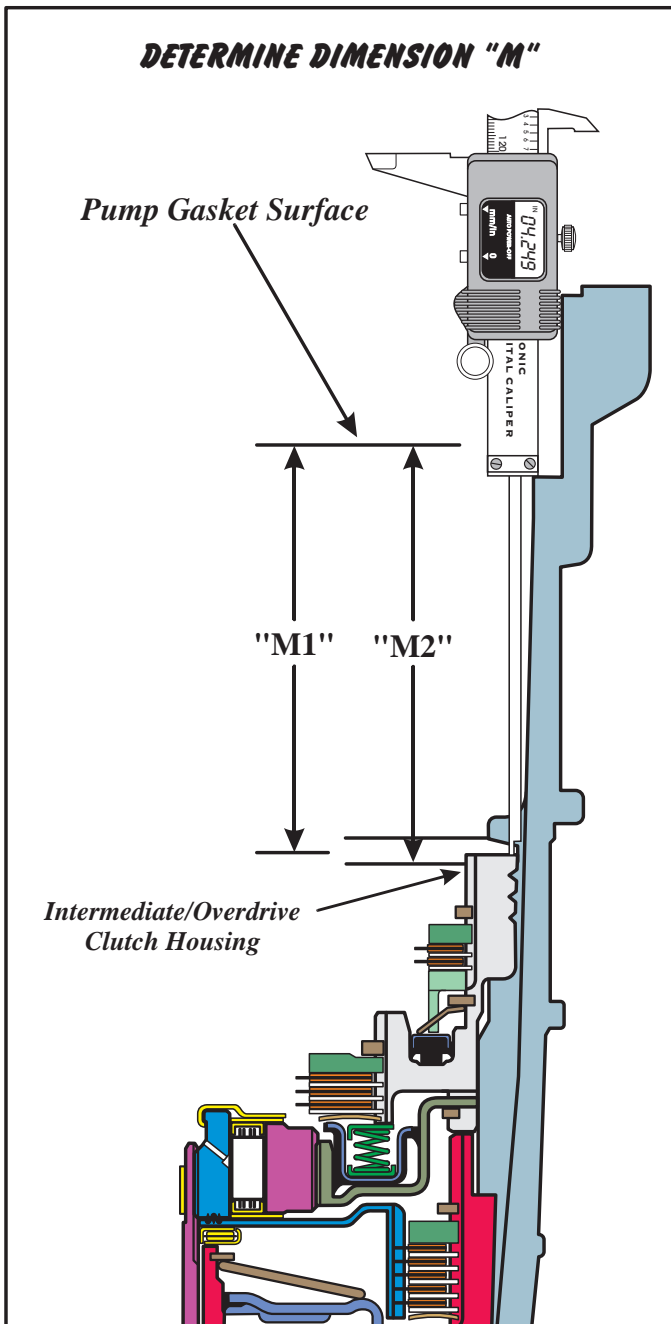

Figure 179
8. Measure the distance from the pump gasket surface, to the top of the intermediate/overdrive housing, as shown in Figures 179 and 180.
9. Measure the distance from the pump gasket surface, to the bottom of the snap ring groove in the case, as shown in Figures 179 and 180.